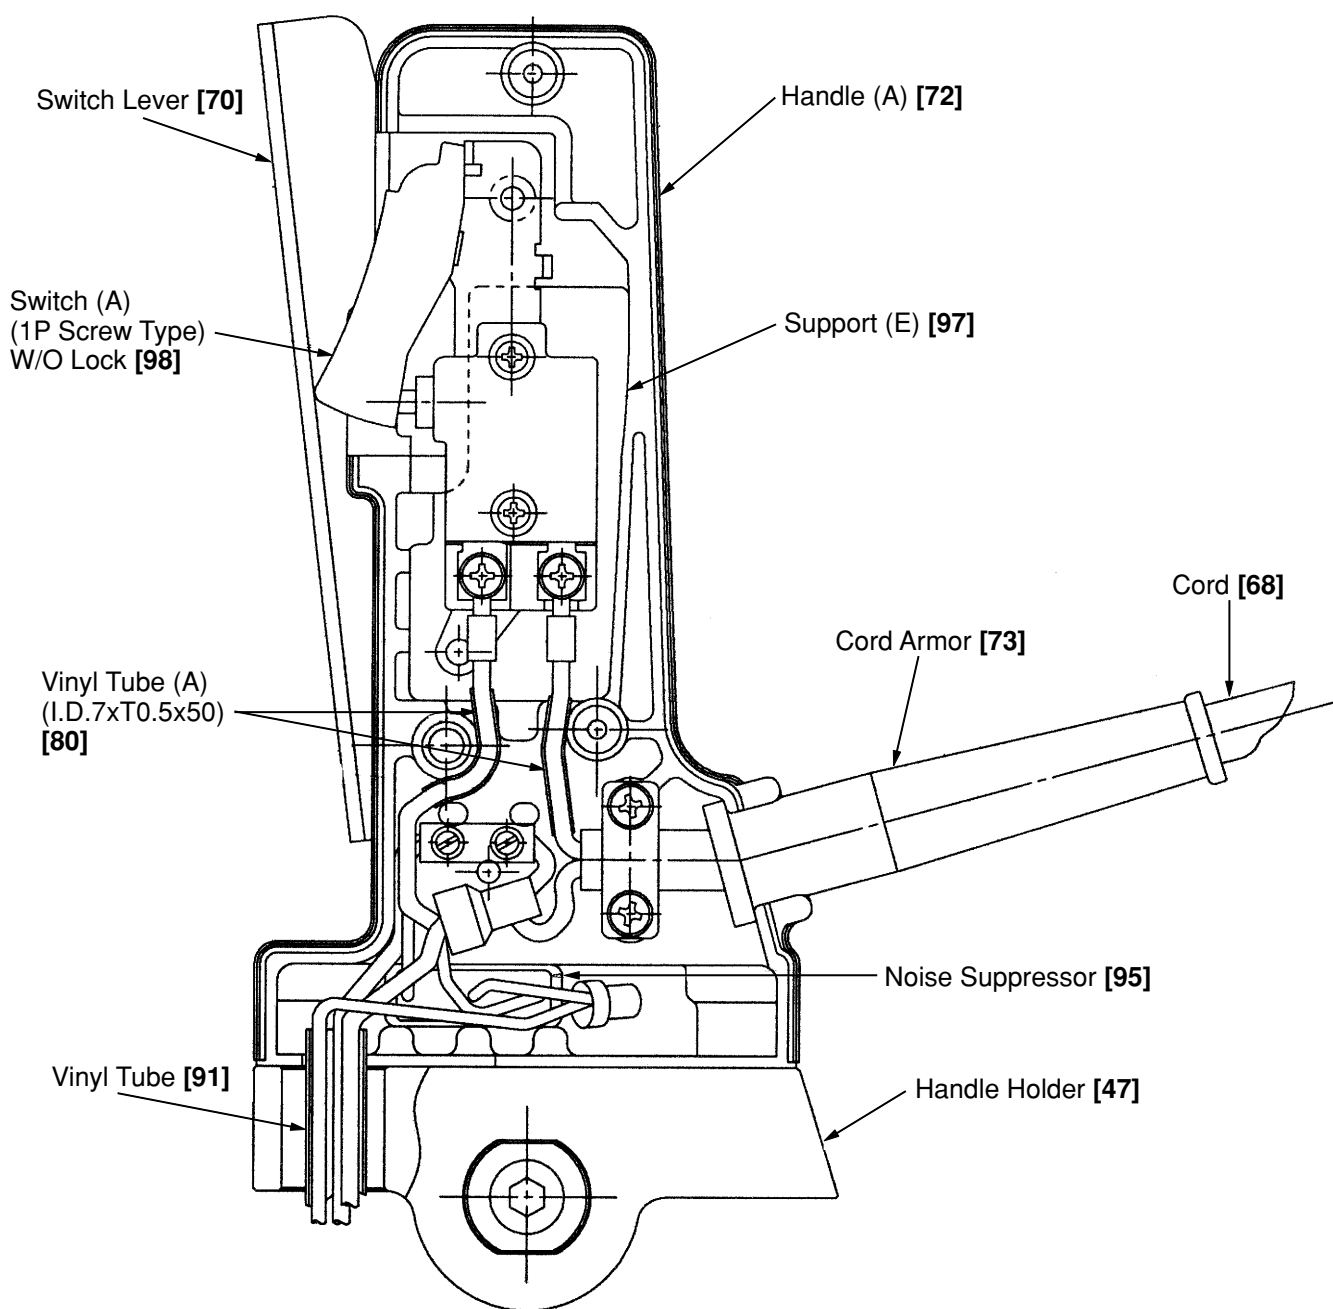

Fig. 21
- Safety precautions in wiring work (See Fig. 21.)